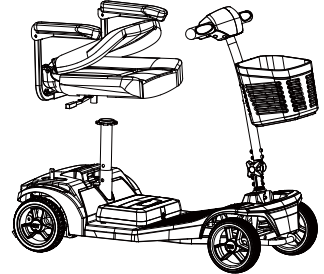

Figure 11: Seat Removal
3. Grab the seat base, pull the seat lever up, and lift the seat vertically(see Figure 11).